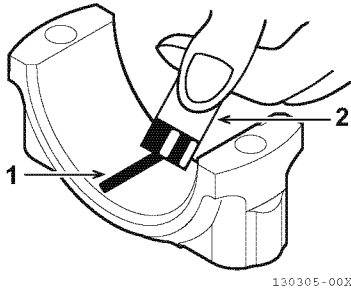

Figure 6-69
- 5- Compare the width of the flattened PLASTIGAGE to the graduation marks on the package (1, **Figure 6-69**). The mark that most closely matches the width of the flattened PLASTIGAGE will indicate the bearing oil clearance.